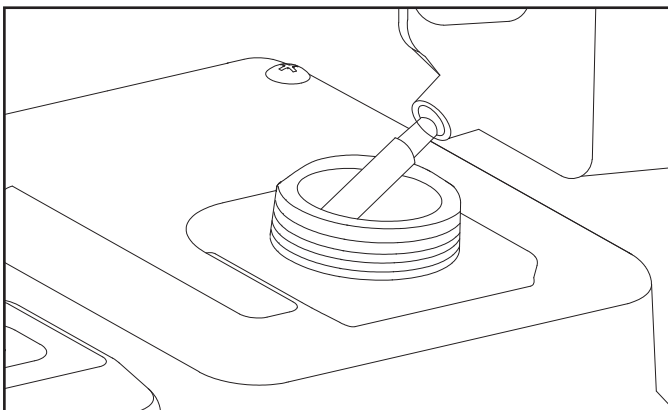

Figure 18
1. Remove the fuel tank cap (Fig. 18).